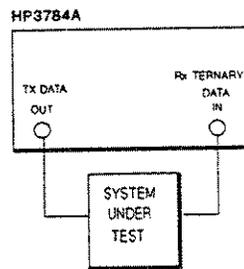

Figure 3-4 Equipment Setup
In the following procedure, a jitter-free signal is applied to the system input, as in Figure 3-4, and the jitter is measured from the system output. First the low level of HP 3784A back-to-back intrinsic jitter is measured.
5. Connect the HP 3784A TX DATA OUT port to the system input port. Connect the output from the system to the HP 3784A RX TERNARY DATA IN port. See Figure 3-4 below.